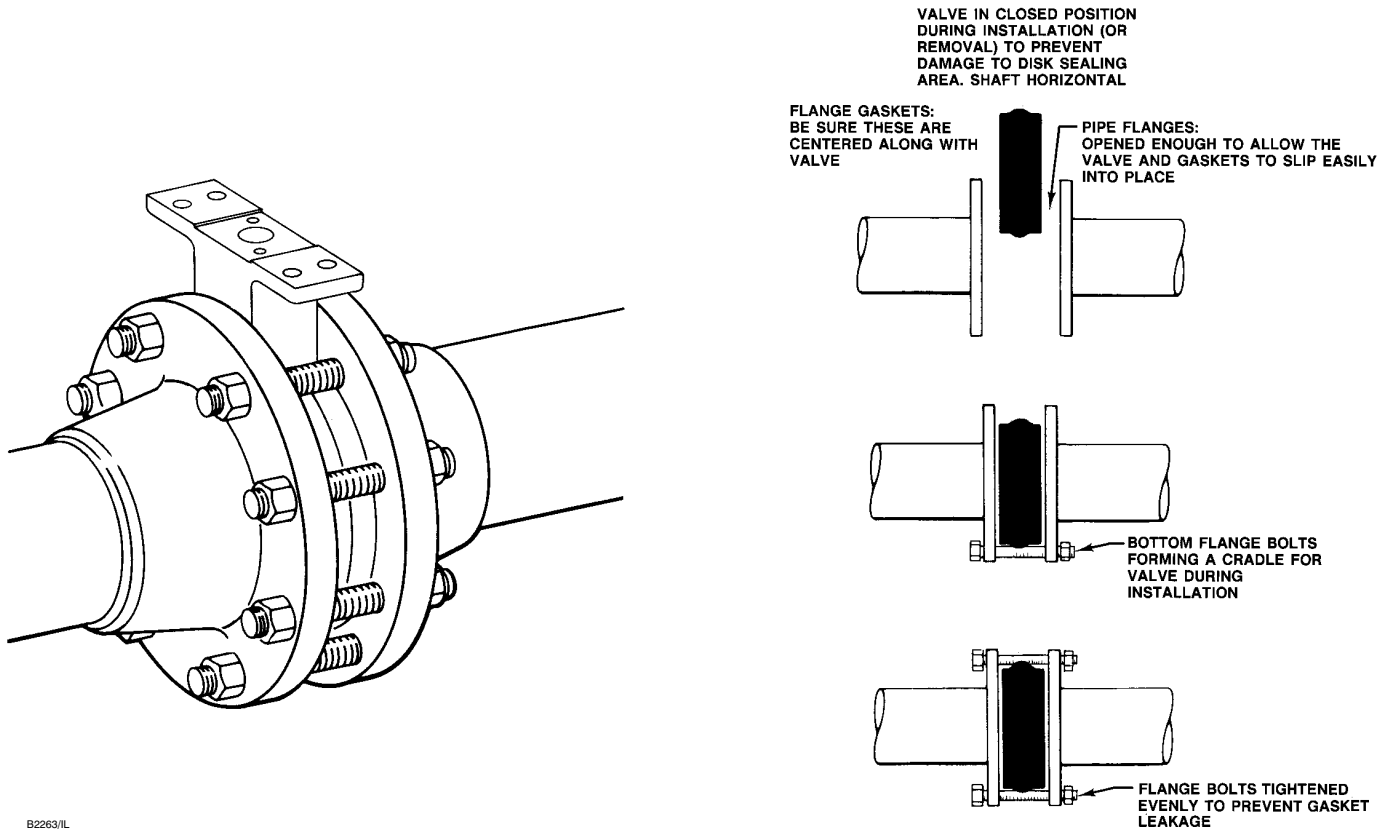

Figure 3. Proper Installation Procedure
1. See figure 3. Install the lower flange bolts first to form a cradle for the valve.
2. Before removing the valve from the pipeline, make sure the valve disk is closed. See figure 3. Rotate the stem clockwise until the disk makes contact with the internal stop or actuator travel stop (if still installed). The "S" stamped on the stem should be aligned with the "S" on the valve body.